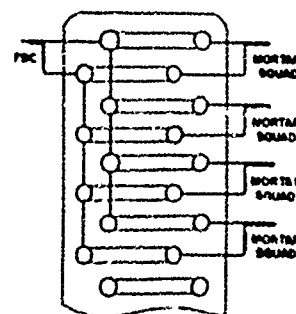

Figure 9-16. Terminal Strip TM-184.
(3) To further simplify the laying of wire within your positions, take the terminal strip (TM-184) and fasten it to the outside of your FDC vehicle and wire the terminal in series. (See Figure 9-16.) This will eliminate excess wire lines in the FDC area and you will be able to provide adequate communications to each squad.